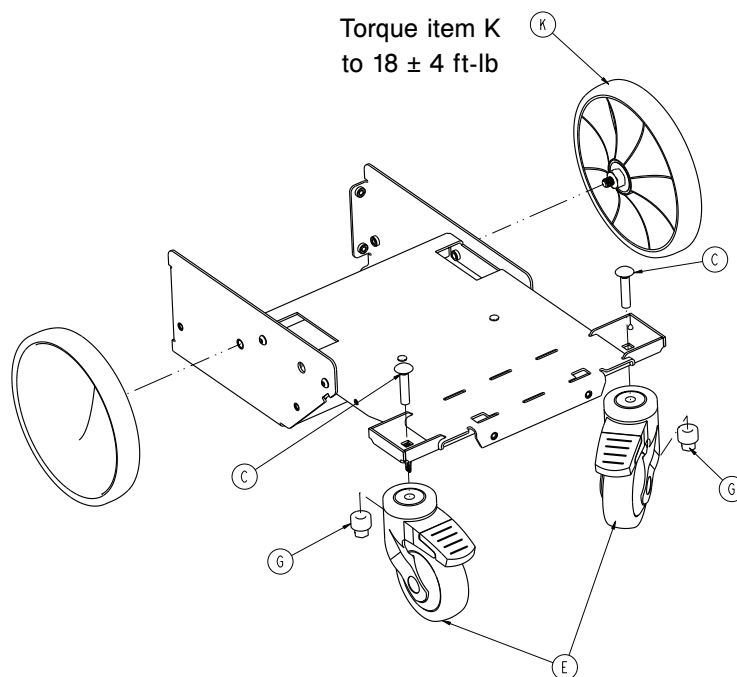

Figure 13 – Front wheels
5. Slightly tip the product and place a 2" x 4" board under the front corner of the frame on the side you are replacing the front wheel (Figure 13).